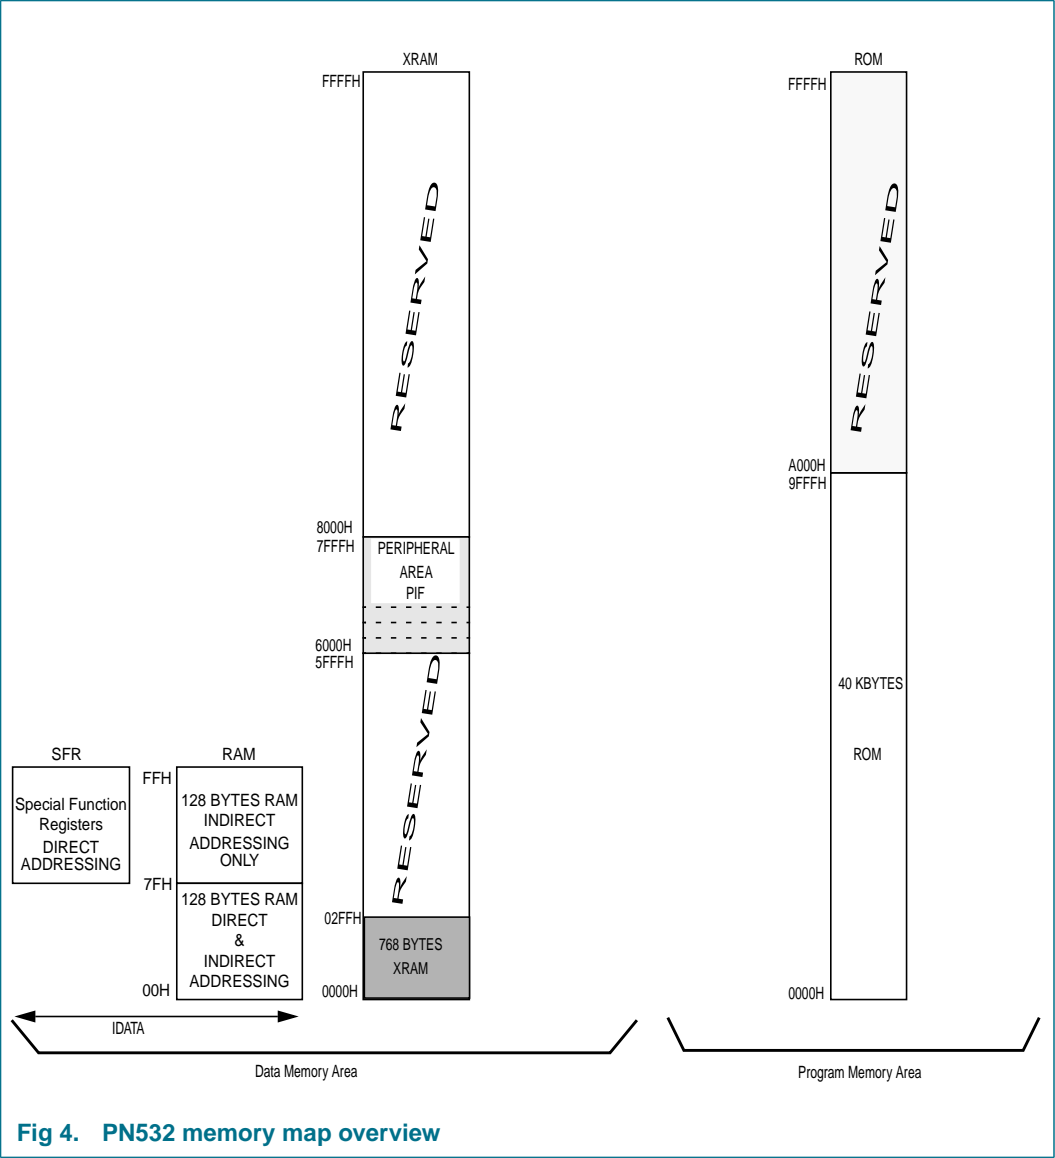

Fig 4. PN532 memory map overview
- RAM interface to embedded IDATA and XRAM memories (see Figure 4 on page 11)